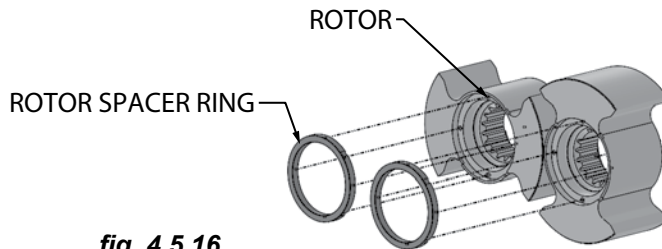
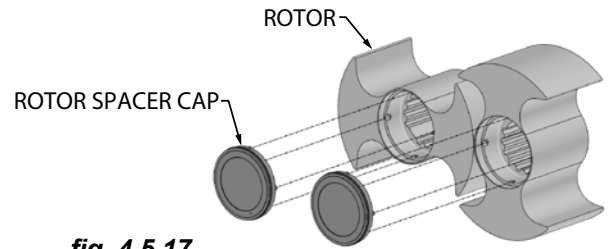

fig. 4.5.16
fig. 4.5.17
4.5.2.4.4 FoodFirst Rotor Spacer Removal (reference fig. 4.5.16 and 4.5.17)
Rotor Spacer Rings may be removed from the **Rotors** by gently pulling them out of the rotor (fig.4.5.16). **Rotor Spacer Caps** may be removed from the rotor by gently pressing them out through the splined center hole, accessible from the rear side of the rotor (fig. 4.5.17). Once removed, be sure to store the **Rotor Spacers** in a safe place.